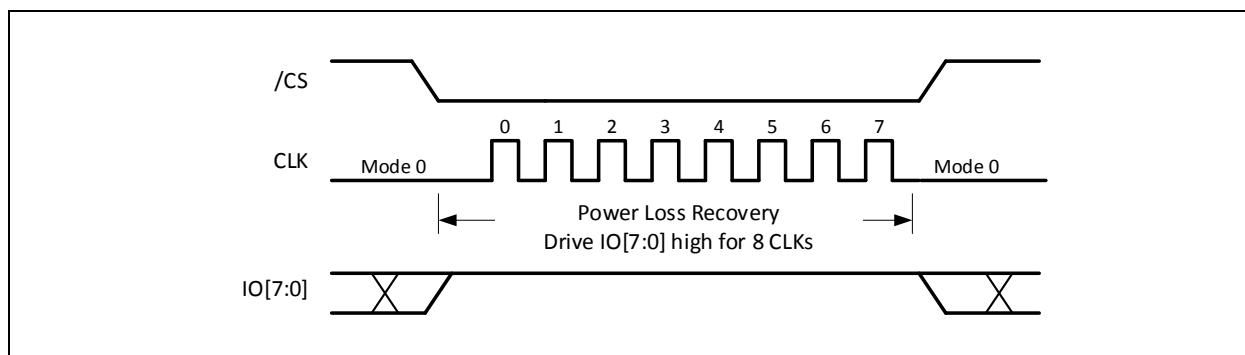

Figure 4-6. Power Loss Interface Recovery
- The second step is to restore and reset the Volatile Configuration Register setting to the default power on state to be the active interface mode. This is performed by driving the /CS pin low, followed by driving IO[7:0] pins high ('1') for 8 CLK cycles, and subsequently driving the /CS pin high before the 9th CLK activates the device operation based on the Volatile Configuration Register power on reset setting (IO mode configuration is in SDR mode). Figure 4-6 illustrates the Power Loss Interface Recovery Sequence.